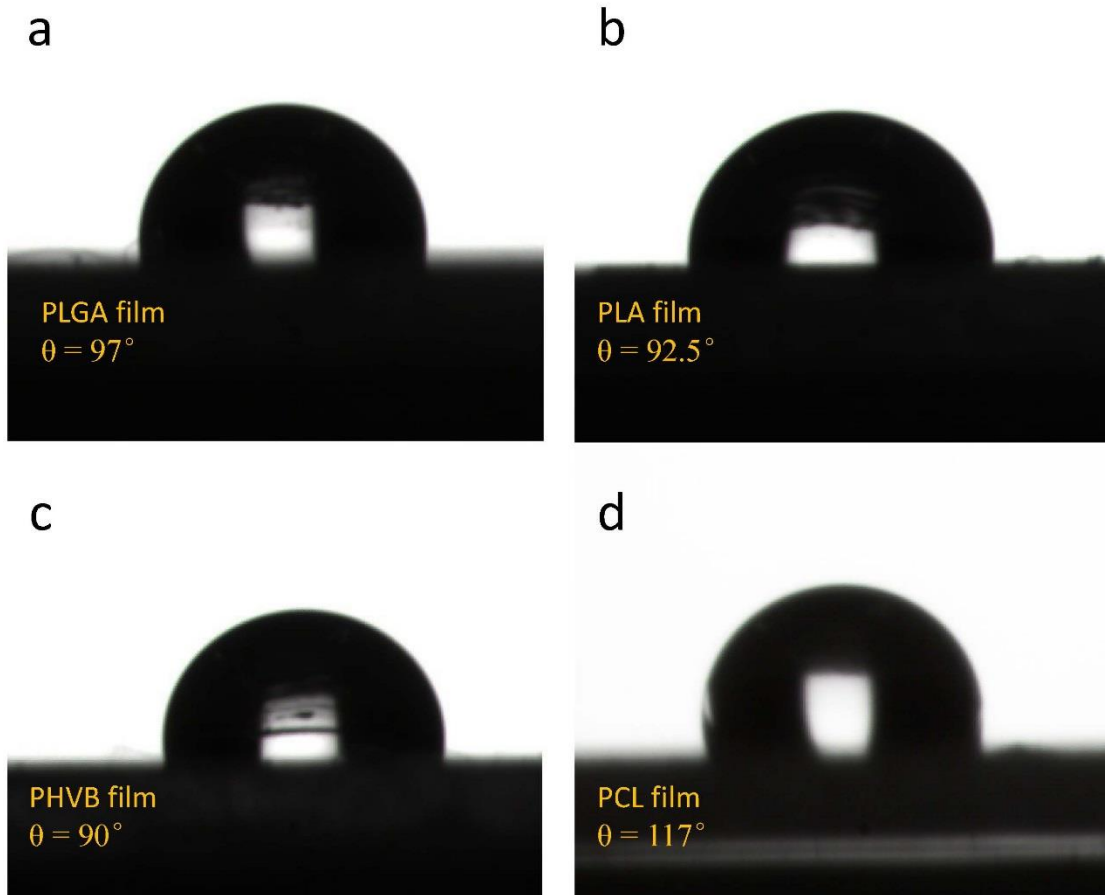

Fig. S3. Water contact angle test of selected BDPs. The water contact angle of encapsulation materials was tested to demonstrate their hydrophobicity.
- Fig. S3. Water contact angle test of selected BDPs.